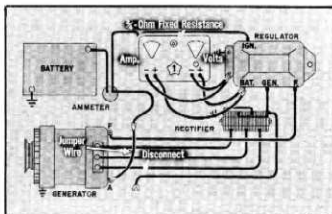

Fig. 50
1. Connect a volts-amperes tester (fig. 50) and turn fixed load switch to $\frac{1}{4}$ ohm position and lock tester control knob in fixed position.